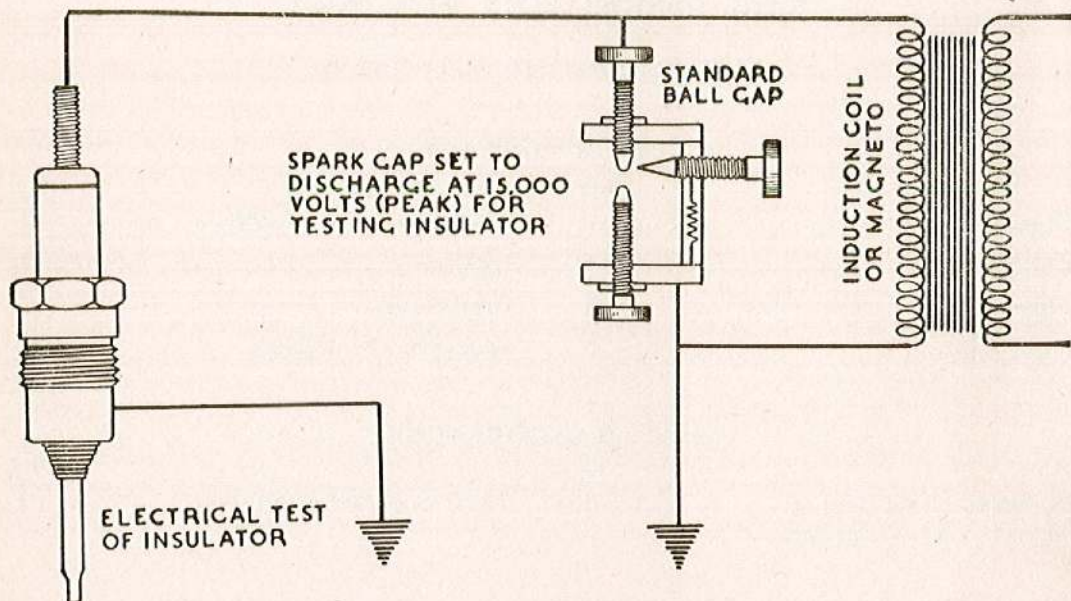

Fig. 1. Diagrammatic layout of test rig
8. The centre assembly must be tested before reassembly, and the equipment required is shown diagrammatically in fig. 1. This consists of a standard ball gap set to discharge at 15,000 volts (peak) and a high-tension supply.